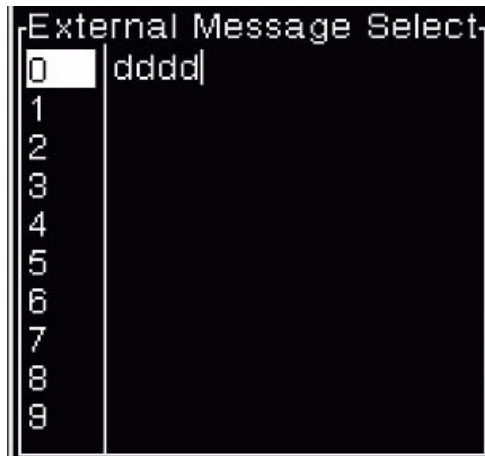

Figure 6-8: External Message Select Screen
- 6 Select Edit External Select Table (Figure 6-8). The External Message Select dialog opens.